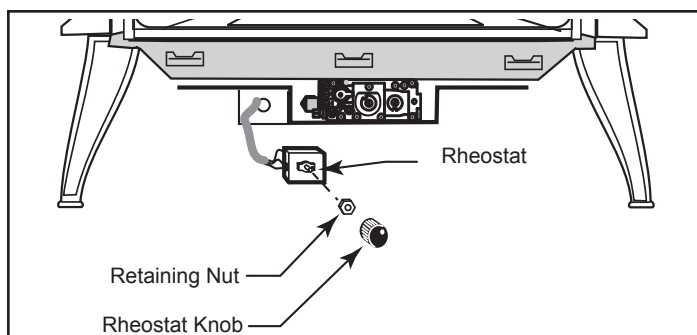

Figure 15 - Attach rheostat to bracket.
- Insert the switch box shaft through the hole in the back of the left side of the panel, aligning the locator pin with the smaller hole in the panel, Figure 15.